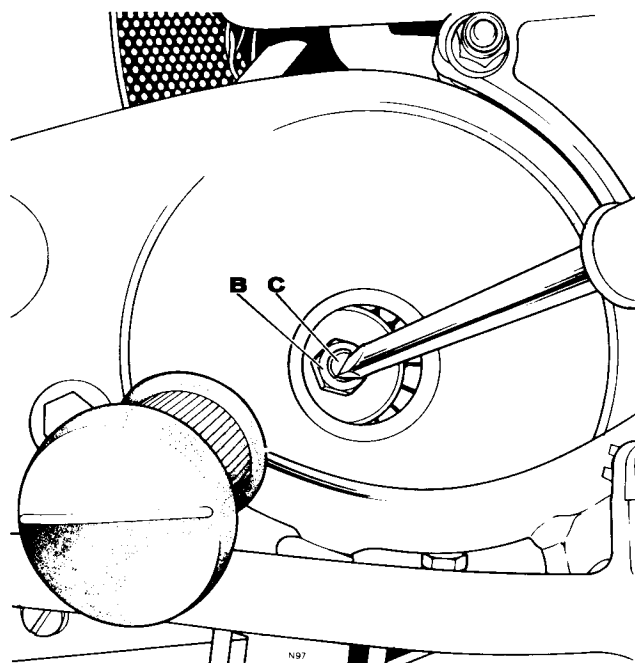

Fig. C48 Clutch adjustment
- 5 Release nut (B) in *Fig. C48* then turn the screw (C) gently anti-clockwise until movement is felt on the right side operating lever.
- 6 Turn screw (C) in a clockwise direction until it is felt that the screw just touches the push rod.
- 7 Unscrew adjustment screw (C) one full turn and, holding in this position retighten locknut (B). This ensures the correct free movement on the clutch push rod.